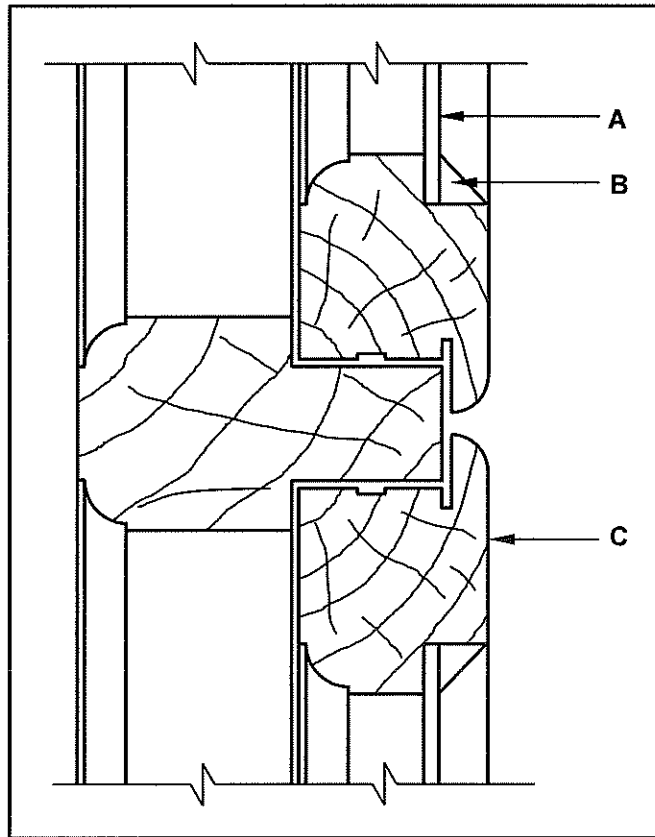

FIGURE 3.1
- 3.1 FIGURE 3.1 below shows a vertical section through a double casement where the rails are lipped and rebated into the frame window with a fanlight. C is part of the casement.